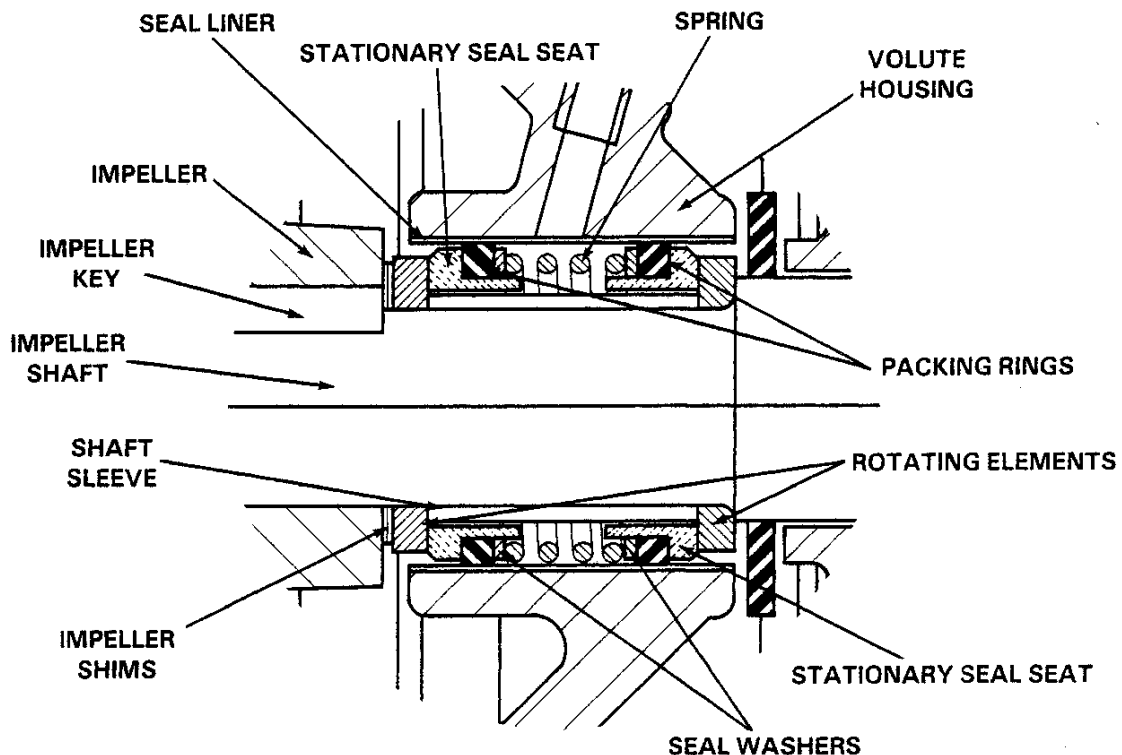

Figure 4. GS-1500 Seal Assembly
Before removing the seal assembly, turn the cross arm on the seal grease cup (12) clockwise until it rests against the cover (see figure 4). This will prevent the grease in the cup from escaping after the seal is removed.
Lubricate the packing rings with soft grease or oil when installing the seal, and place a drop of light lubricating oil on the lapped faces. Assemble the seal as shown in figure 4.